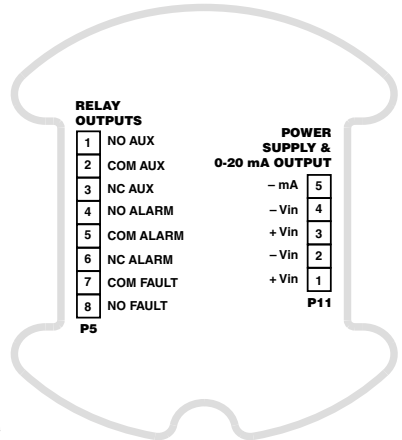

Figure 9—U5015 Wiring Terminals
Depending on the wiring option that is used, the pre-installed jumpers may be required or discarded. See Table 3 for the Jumper Usage Guide and Figures 9 to 11 for wiring examples.
- Figure 9 shows the wiring terminals.